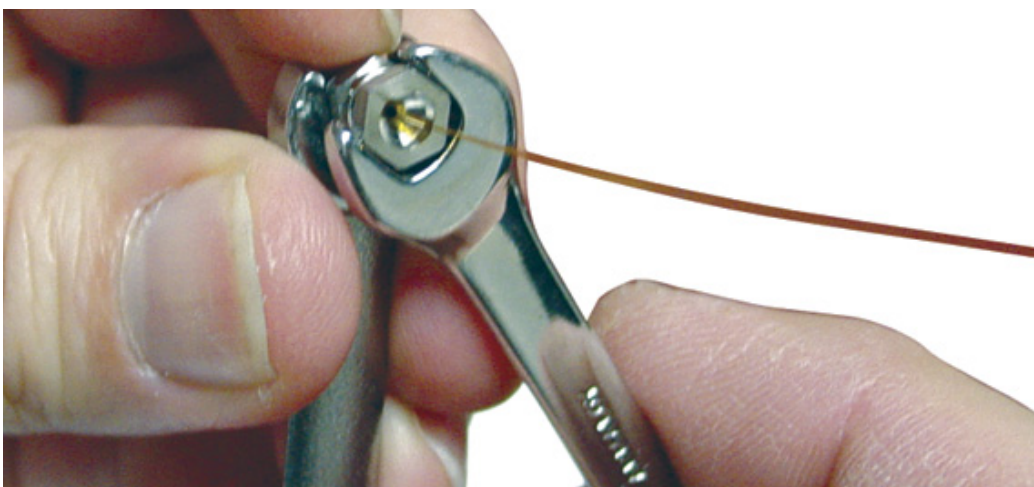

Figure 7 Tightening the internal nut
- 3 Using the wrench and ferrule pre-swaging tool, tighten the nut a little at a time, occasionally checking to see if the ferrule is gripping the tube (see Figure 7). When the ferrule just starts to grip, notice position of the nut and then tighten by turning 45 to 60 degrees of rotation, but no more than 60 degrees (one flat). If you can pull the column free, it is not tight enough.